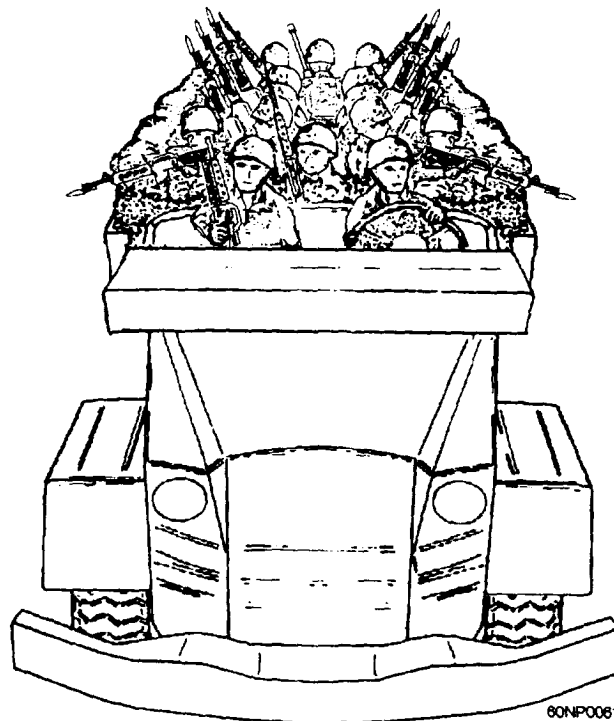

Figure 5-2.—Organization of occupants in a hardened 6 x 6 truck.
6. The maximum number of people in the bed of a hardened 6 by 6 truck should not exceed 13 (fig. 5-2).